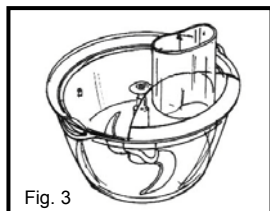

Fig. 3
5. Place the processor inner lid onto the bowl making sure that it is placed correctly onto the bowl. (Fig. 3)